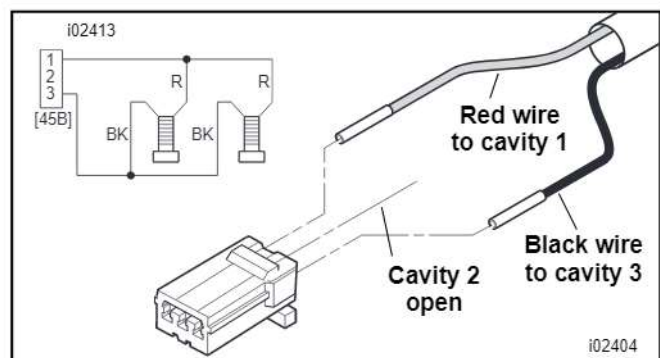

Figure 5. Wiring the Socket Housing
7. Obtain the socket housing (11), and the black wire (7) and red wire (8) assemblies from the kit.
8. Insert the terminals on the ends of the red and black wires into the socket housing (11) from the kit as shown in Figure 5. Refer to AMP MULTILOCK ELECTRICAL CONNECTORS in the Service Manual.